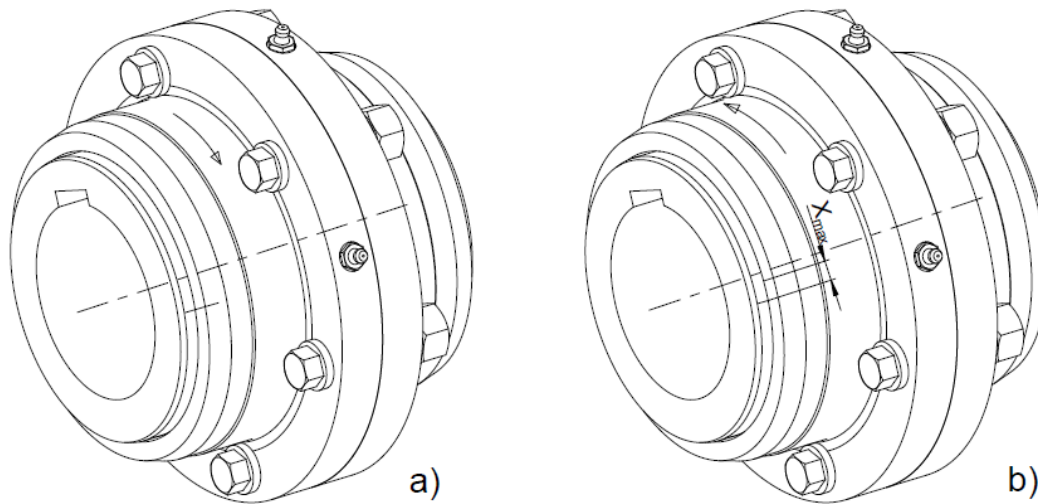

Figure 11.1: Checking the wear limit
- Turn hub (item 1) in one direction of rotation
- Make a marking on the hub (item 1) and coupling half (item 2) as shown in figure 11.1 (a)
- Turn the hub (item 1) in the other direction of rotation until stop